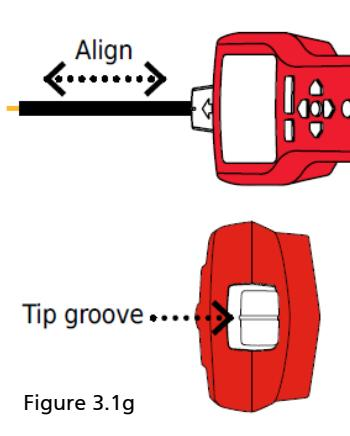

Figure 3.1g
5. Receiver Positioning: For best results, align groove on tip sensor with wire direction as shown. Signal may be lost if not properly aligned. (see Figure 3.1g)